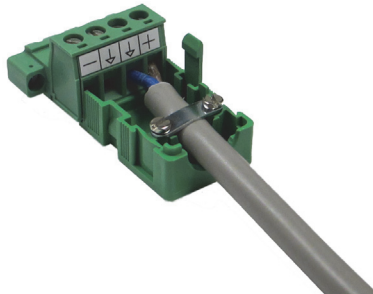

Figure 6.4 Open NK-S12/P Phoenix Connector Backshell with Terminal Block
- a. Attach one wire to the ground (**Figure 6.4**).
- b. Attach the other wire to the positive contact (**Figure 6.4**).